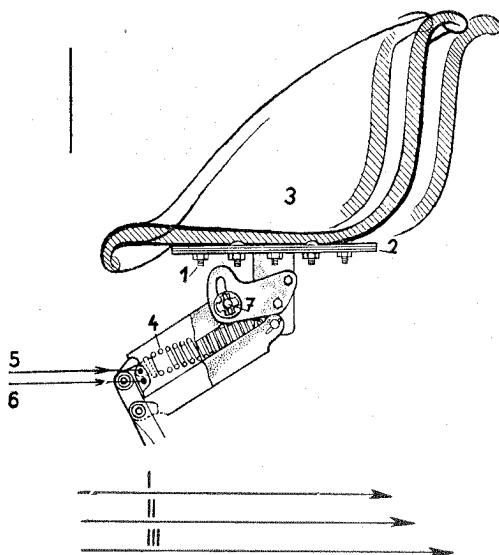

Fig. 16
The seat is well sprung and can be adjusted in accordance with the weight and size of the driver (Fig. 16). The distance of the seat from the steering wheel can be changed by loosening the nut (1) on the base plate (2) and shifting the seat (3) to the chosen positions: I, II, III.